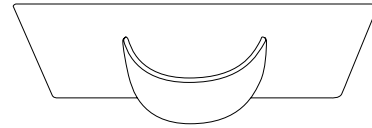

Fig 55 - Reinforced anchor point on the underside of the Platform
6. The Platform has a reinforced anchor point on the underside (Fig 55). Familiarise yourself with its location before launching the Product.
- Always ensure that all Air Toggle straps not being used are kept fastened by the Velcro flap before and during towing. Failure to do so may cause damage to the straps and entanglement whilst in the water. (Fig 55)